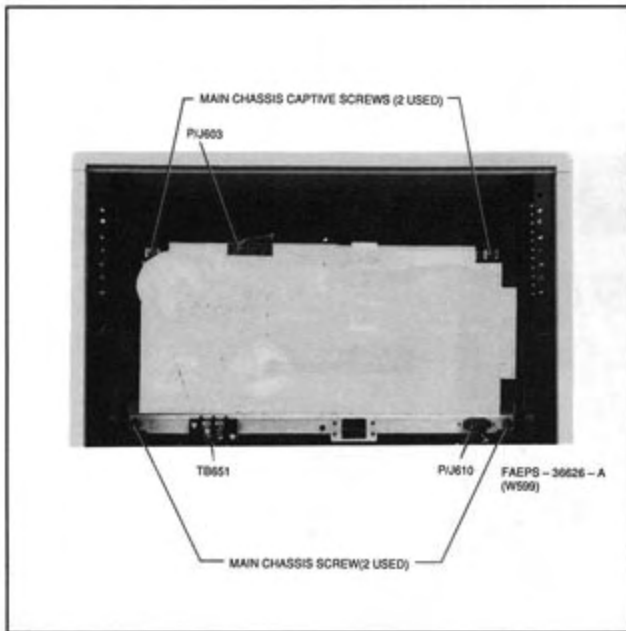

Figure 4. Power Supply Mounting Hardware and External Connections
Step 1. Refer to Figure 4. Disconnect P610 from J610 on the power supply chassis. Disconnect P603 from J603 on the distribution board. Remove the two wires from the + and – terminals of TB651 on the power supply chassis. Note the color coding of the wires and the polarity of the terminals. If necessary, tag the wires for ease of identification for reassembly.
Step 2. Refer to Figure 4. Remove main chassis screws and loosen main chassis captive screws.